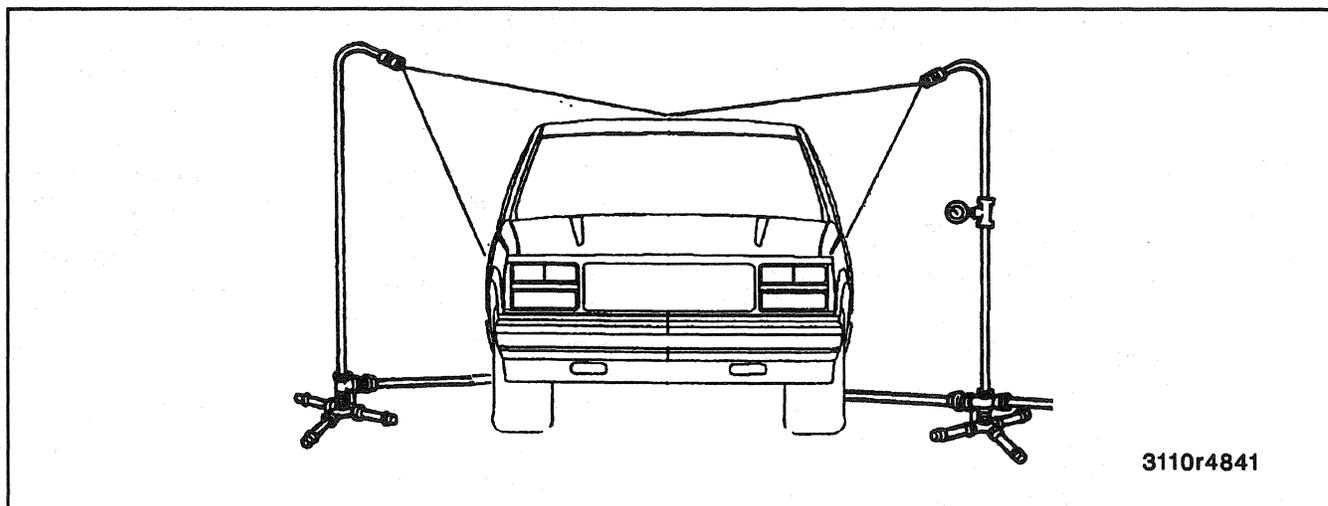

Figure 33—Water Leak Test Stands
1. Position the stands as shown in Figures 33 and 34. Water spray from the stands should overlap on the vehicle.